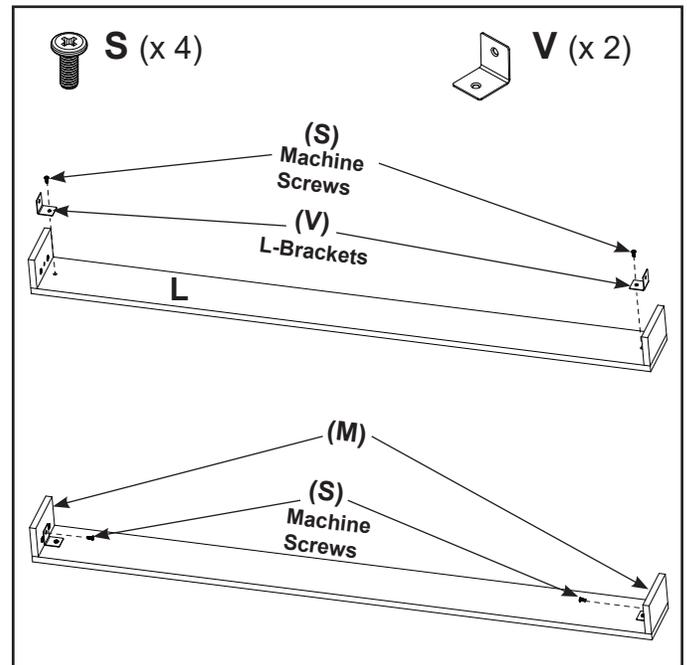

Figure 31
- Install two (2) L-Brackets (V) using two (2) M6 X 10 screws (S) on part "L". Secure two (2) L-Brackets (V) using two (2) M6 X 10 screws (S) to part "M" on each side. See Figure 31.